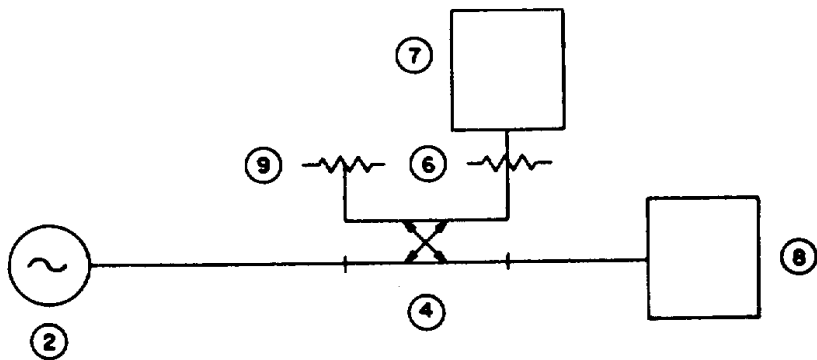

Figure 3c.
4. Replace the standard power meter with the Model 42BD (8). (See Figure 3c.) With generator (2) set at the same frequency as in Step 1, adjust the generator output level until the Model 42 (7) reads the same value as recorded in Step 3. Record the indicated power reading on the Model 42BD (8) as  $P_{ind_2}$